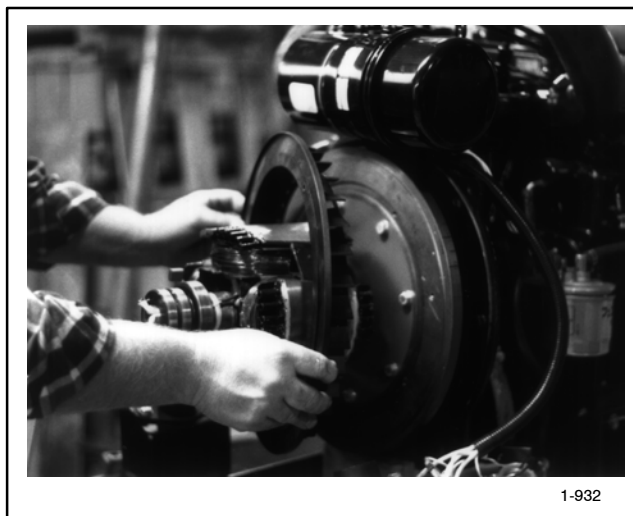

Figure 8-12. Removing the Cooling Fan
21. Remove the generator cooling fan by removing eight screws and four spacers. See Figure 8-12.